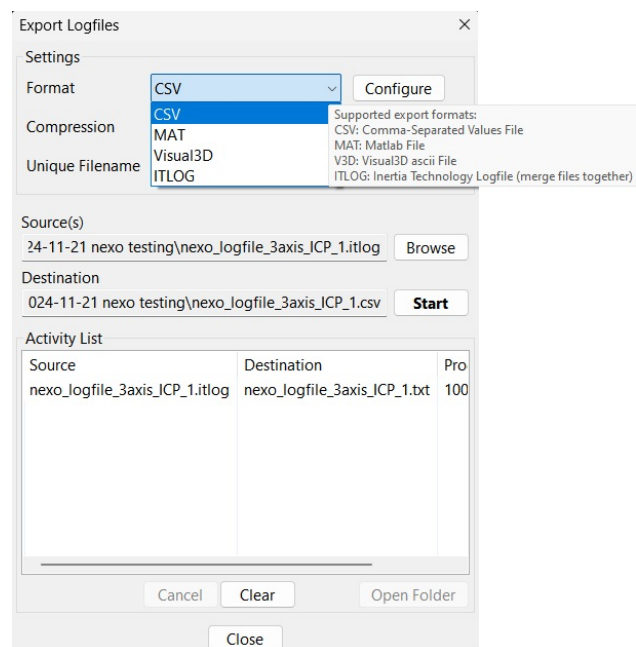

Figure 33: File format options
- **Format:** The file format to export the *itlog* file to (Figure 33). Settings specific to the format can be modified via the *Configure* button (see the next sections for available options).